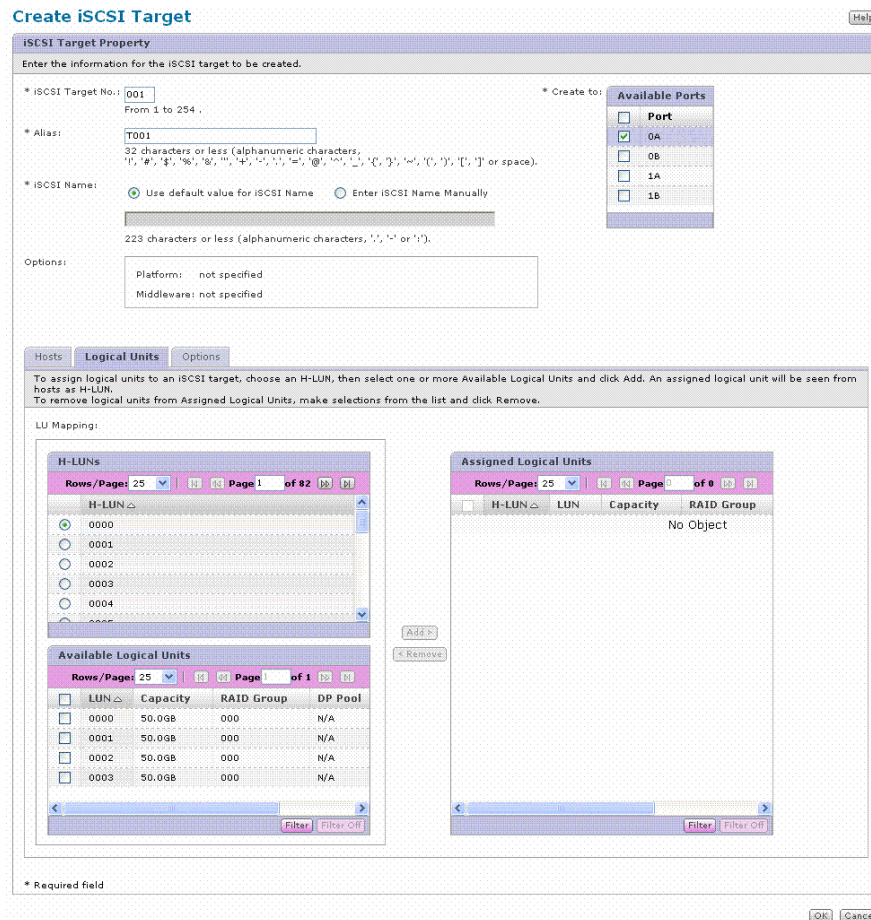

Figure 8-31: iSCSI Target Property - Logical Units tab
The Logical Units tab enables you to assign logical units to logical unit numbers (H-LUNs) that are recognized by hosts. Figure 8-31 displays the iSCSI Target Properties - Logical Units tab.
3. Expand the **Groups** list, and click **iSCSI Targets** to display the iSCSI Targets window as shown in Figure 8-31.